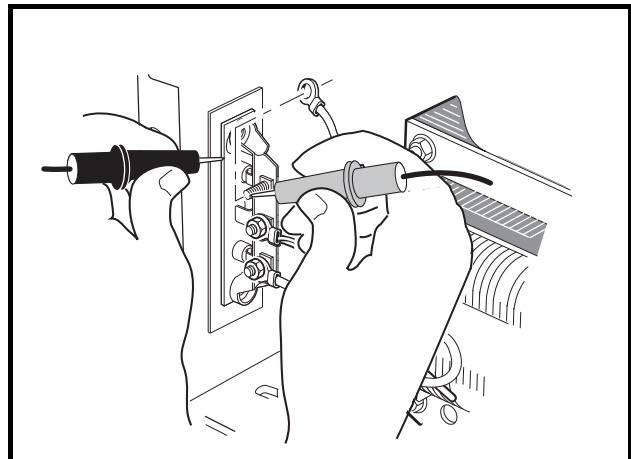

Figure 4-14 Diode Test – Probes Reversed
6. Reverse test probes and check each diode again and note the reading (**Figure 4-14, Page 4-15**). A diode is designed to conduct current in one direction only. If a diode conducts current (shows continuity) in both directions, the entire heatsink with diodes must be replaced. If a diode does not conduct current (does not show continuity) in either direction, the entire heatsink must be replaced.